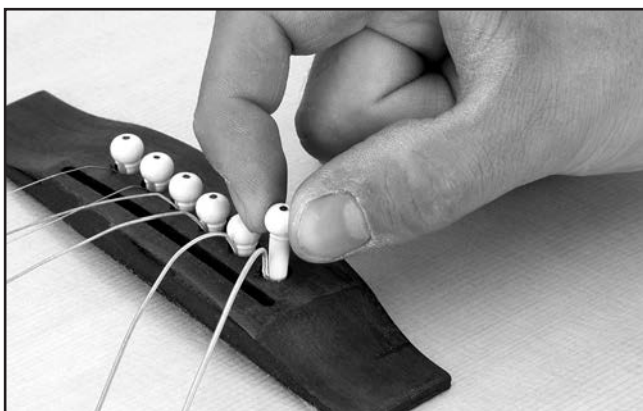

Figure 18. Installing the strings.
3. Align the string slot on the bridge pin with the string and press the bridge pin firmly into the bridge hole, as shown in **Figure 18**.